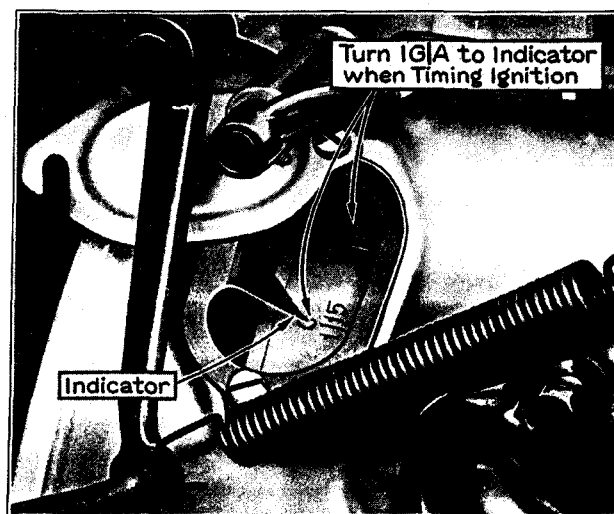

Fig. 21. The IG/A mark is  $1\frac{1}{4}$  in. ahead of center.
**Timing Ignition:** The method of timing the ignition is in general the same as on the Cadillac 353. The point at which the contacts should separate, when the manual control is at full advance, is indicated on the flywheel by the marking IG/A. There are two IG/A marks, one for the Nos. 1 and 15 cylinders, shown in Fig. 21, and the other for the Nos. 8 and 10 cylinders. These IG/A marks are  $1\frac{1}{4}$ " ahead of center.